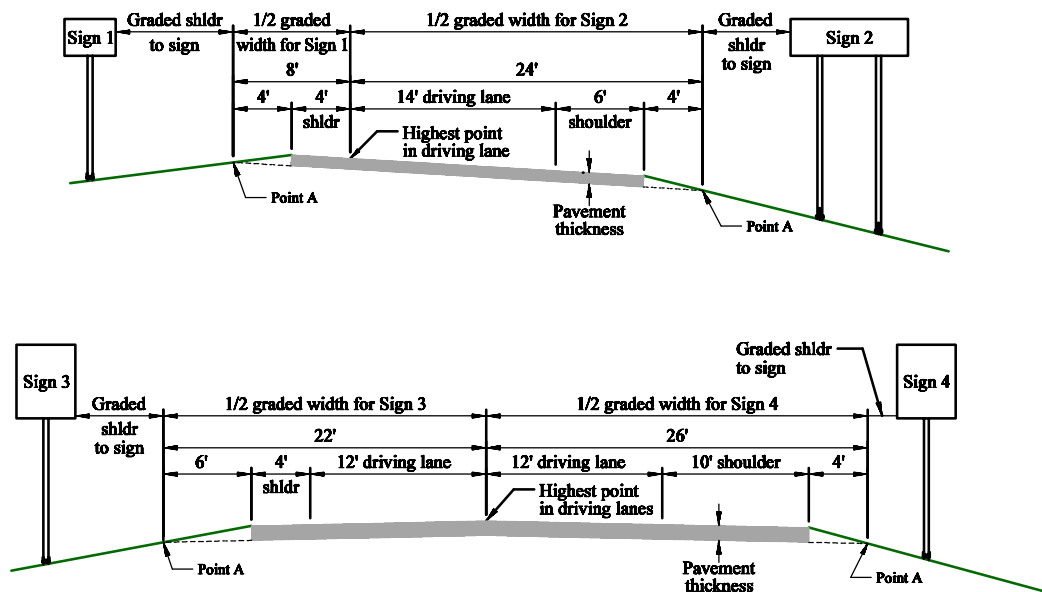

Figure 8 – Graded Width Examples for Pipe/W-Shape Supports
43. **Graded Width**{ XE "Graded Width" \b } : The graded width is double the distance, in inches, from the highest point in the driving lane(s) to the point where the bottom of the pavement depth intersects the inslope (Point A in Figure 8.) The program assumes that the roadway is symmetrical and if it is not, it has to be adjusted as shown in the examples below. For Sign 2, the graded width is calculated as $24' \times 2 = 48'$ or 576".
44. **Graded Shldr to Sign**{ XE "Graded Shldr to Sign" \b } : The distance, in inches, from the edge of the graded width{ XE "graded width" \b } to the edge of the sign(s) closest to the roadway. For example, the graded shoulder to sign distance for Sign 1, in Figure 8, can be calculated as 18' (the minimum required horizontal distance, see ND Standard Drawing D-754-1) minus 4' (shoulder width) minus 4' (distance from the shoulder to Point A.) Therefore, the graded shoulder to sign distance for Sign 1 is 10' or 120".